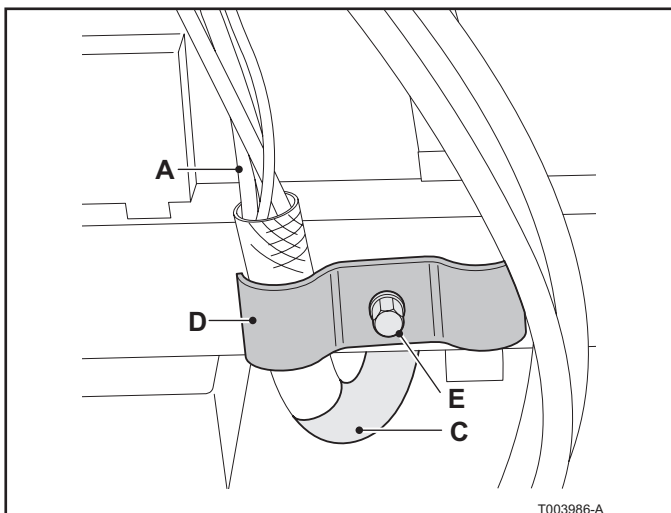

Fig. 27 CAN-bus cable connection on the GEP (rear view of the DIN rail)
4. If the cable used is too thin to be secured in the cable bracket (see D in Fig. 27), thicken the cable by wrapping insulation tape around the cable casing next to the stripped section (up to a diameter of approx. 12-13 mm).
5. Loosen the screws for the cable bracket slightly at the spot where the CAN-bus cable needs to be fastened (see E in Fig. 27).
6. Pull the shield back over the cable casing and fasten it to the cable bracket (see D and E in Fig. 27) through the other eye of the bracket itself (see D in Fig. 27). The bracket must keep the cable firmly in place when the cable is pulled.
7. Insulate the surplus part of the shield to prevent it from coming into contact with the printed circuit board (see C in Fig. 27).